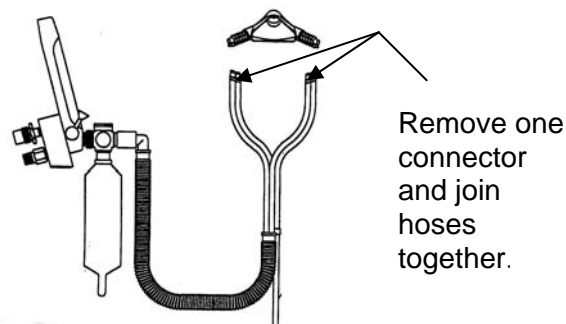

FIGURE 1
Disassemble the fresh gas tubing from the mask and “Y” connector, and breathe back into the fresh gas corrugated tubing (Figure 1, Item 9) connected to the flowmeter. You should not be able to fill the reservoir bag with exhaled gas. If the bag fills, this breathing circuit has no NRV and would allow for carbon dioxide (CO2) buildup in the breathing bag.
3. **Rubber Goods to Bag Tee:** (Refer to item (#) in parts list on the next page and Figures 1 and 2 on pages 4 and 5 for assembly and hook-up options.)
- Attach Vacuum Hoses (#8): Refer to Figure 1 page 4.